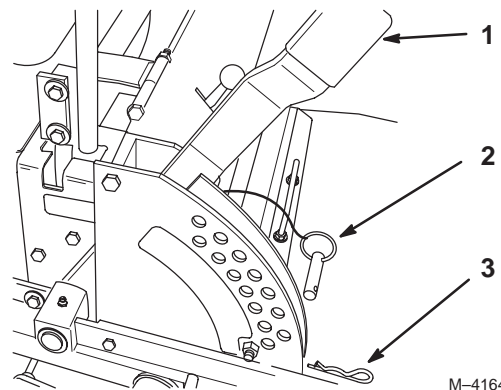

Figure 20
1. Raise the height-of-cut lever to the transport position (also the 5 inch (127 mm) cutting height position) (Fig. 20).
2. To adjust, remove hairpin cotter and clevis pin from height-of-cut bracket (Fig. 20).
3. Select hole in height-of-cut bracket corresponding to the height-of-cut desired and, insert clevis pin (Fig. 20).
4. Secure clevis pin with hairpin cotter (Fig. 20).